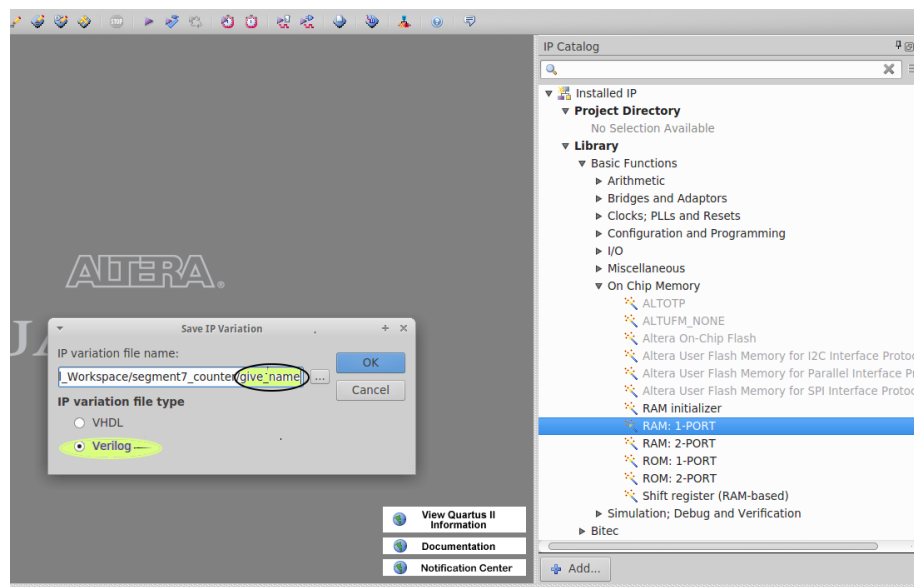

Figure 5: Accessing IP catalog on quartus II
1. Invoke IP Catalog (**Tools > IP Catalog**) after creating a new project. Then, expand **On Chip Memory** menu list, and double click on **RAM: 1-Port**, see figure 5. Enter IP variation file name, and select **Verilog** as the file type. Click **OK**